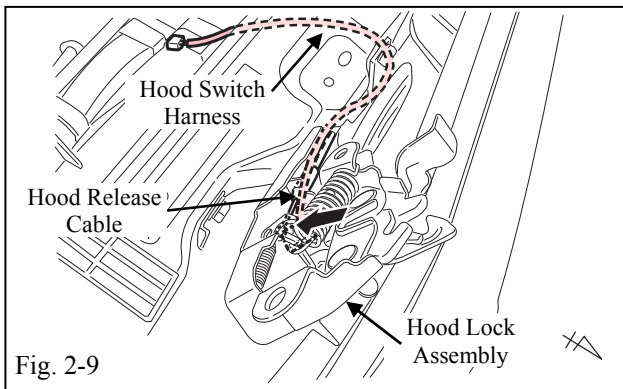

Fig. 2-9
- (j) Connect the Hood Release Cable to the Hood Lock Assembly. (Fig. 2-9)
- (1) Fit the Braided Cable Ball into the Hood Lock Lever.
- (2) Affix the Shielding Cable of the Hood Release Cable to the Hood Lock Assembly by pressing it down into the notch in the Hood Lock Assembly.